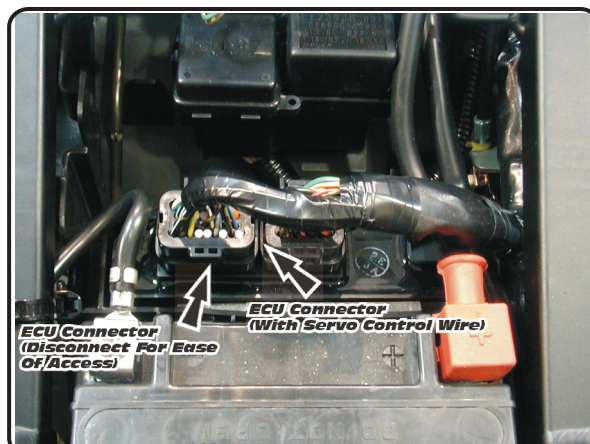

Fig. 9
- 1 With ignition in OFF position, remove rider seat and disconnect engine wire harness connectors from ECU. (See Fig. 9)